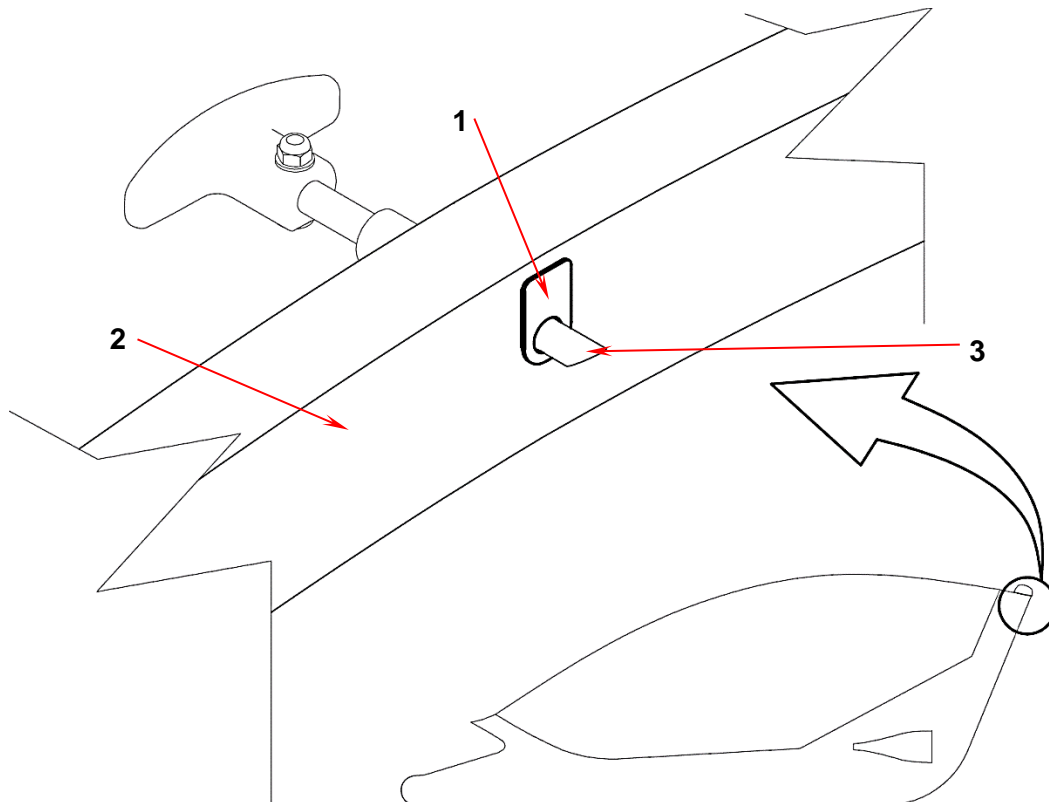

Fig. 6
- a) Peel off the protective plate (1, Fig. 6) from the canopy frame (2) and remove it.
- a) Degrease the bonding surfaces of protective plate (1, Fig. 6) and canopy frame (2).
b) Bond the protective plate (1) on the canopy frame (2) using adhesive Araldite 2022-1 in the position according to main latch (3).